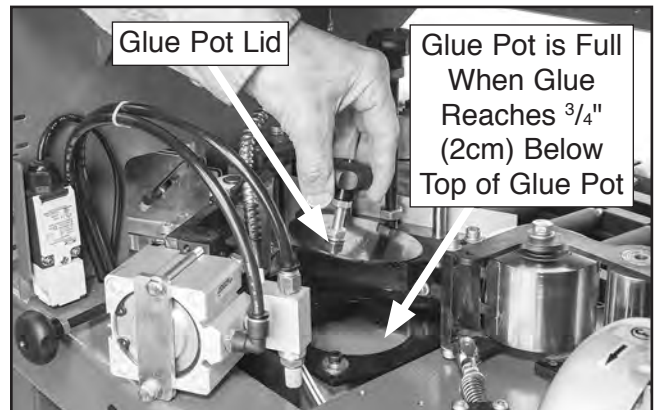

Figure 45. Checking glue level in glue pot.
2. Open rear access cover and remove glue pot lid (see **Figure 45**). Determine if pot needs glue pellets (see **Figure 45**).